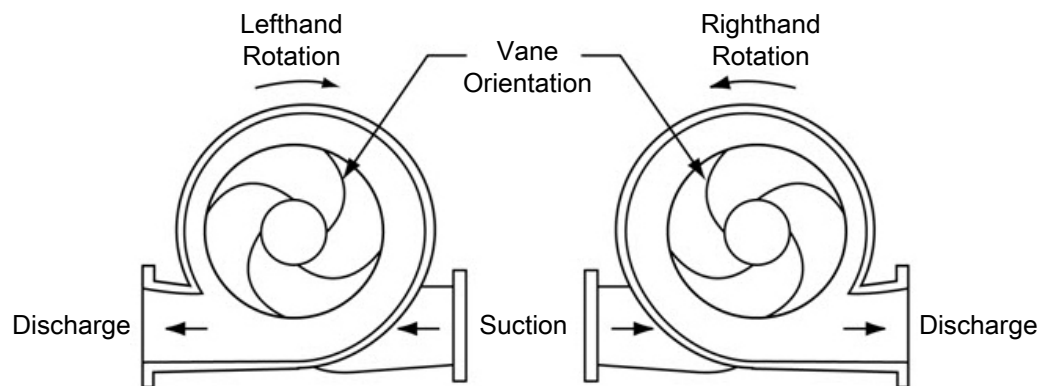

Figure 49: Impeller rotation orientation diagram viewed from pump end
4. Observe the direction in which the vane tips are pointing (see Figure 49).